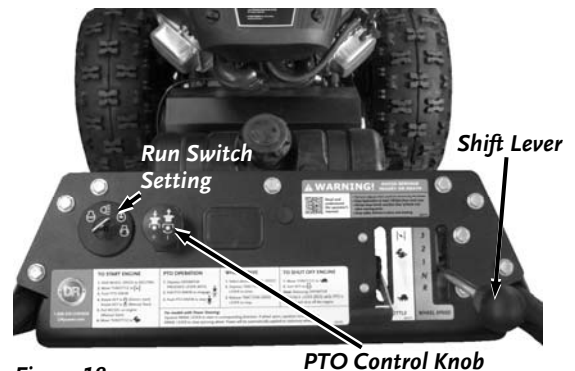

Figure 18
4. Make certain that the Shift Lever is in the Neutral position and the PTO Control Knob is pushed down to the “Disengaged” position (**Figure 18**).
6. After the engine has warmed up, start the Chipper by pulling up on the PTO Control Knob to the “Engaged” position (**Figure 18**).